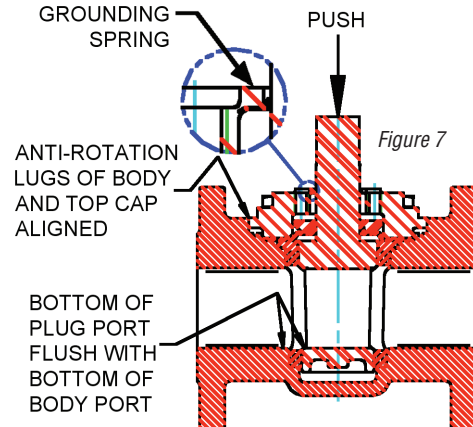

Figure 7
11. Turn the top cap to the right side up position and place the top cap (with grounding spring in place) over the plug stem. Orient the top cap anti-rotation lugs with the anti-rotation lugs on the body (Figure 7).
14. Maintain the top cap position relative to the body anti-rotation lugs (Figure 7), and using all top cap fasteners (Part 10), tighten evenly in a cross-cross method until the top cap bottoms on the body counterbore (Figure 7). Tighten top cap fasteners to the value per valve size and pressure class as listed in Tables 5a, 5b and 5c.